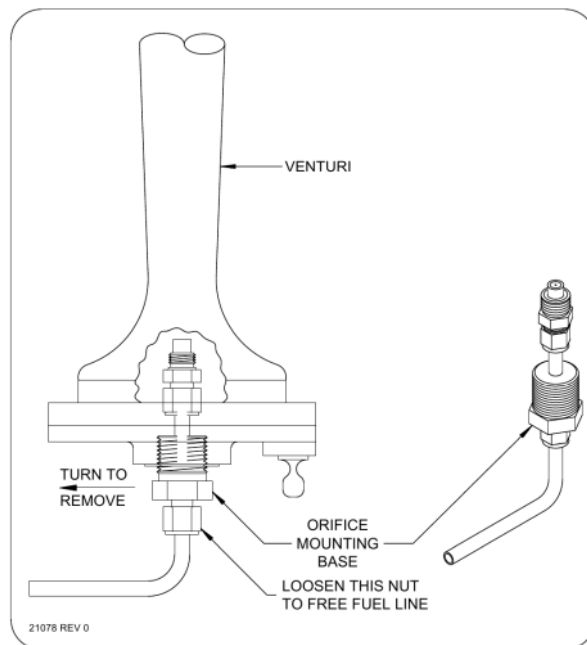

Figure 17 – Orifice Assembly Removal
2. Remove the orifice body from the assembly, see Figure 17.